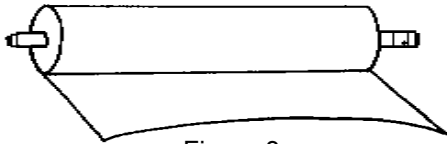

Figure 3
1. For the top supply roll place the mandrel ends into the slots in the top of the laminator. If you are facing the front of the laminator the film should unwind toward you from the bottom of the roll as in Figure 3 below.